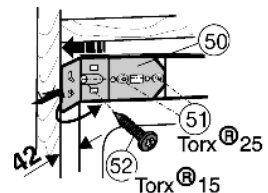

Fig. 23
- Screw the mounting bracket tight onto the unit wall with Spax screw $\varnothing 4 \times 19$ *Fig. 23 (52)*.
- Push the mounting bracket *Fig. 23 (50)* against the wall of the unit and tighten the two M5 screws, Torx 25 *Fig. 23 (51)*.